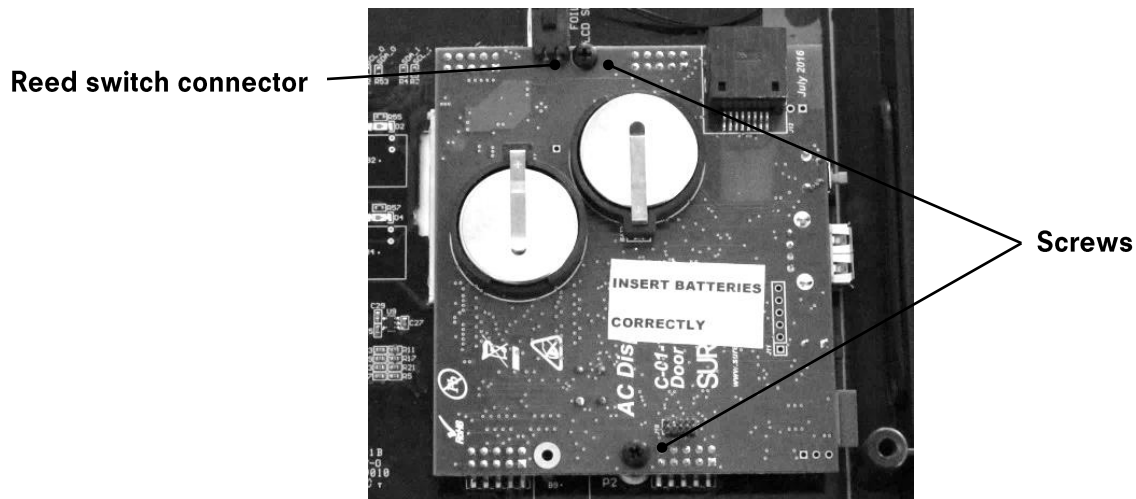

Figure 66: C-01-126 door controller circuit board screws and reed switch
6. Remove the two small Phillips screws holding the C-01-126 door controller circuit board in place and disconnect the reed switch. Please refer to Figure 66.